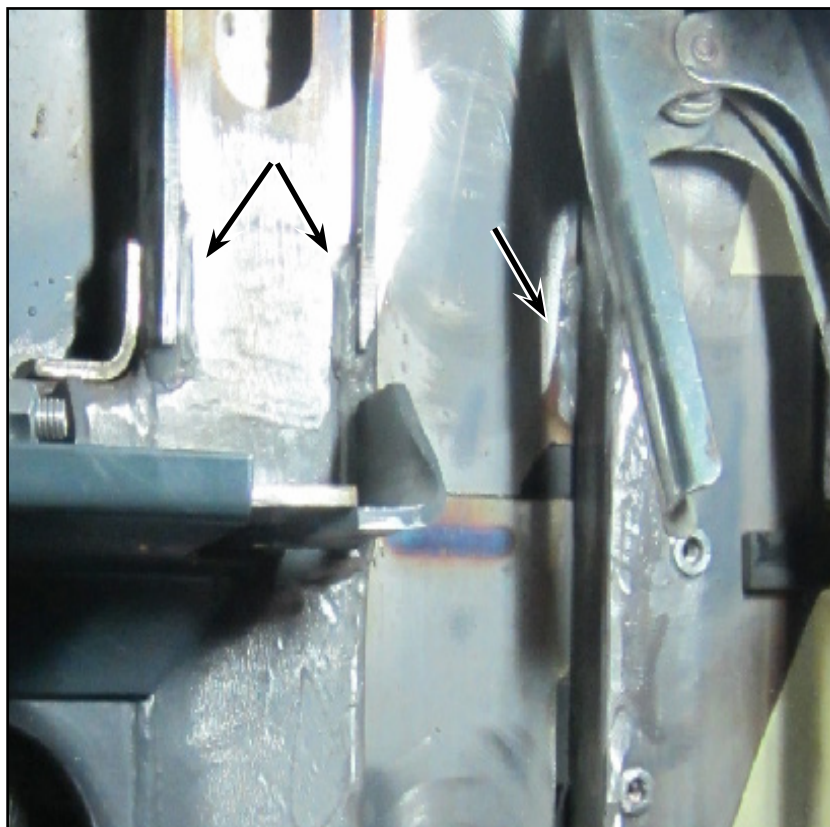

Figure 10 - Examples of Weld Beads that May Need to be Ground (Not Limited to These)
- 1.21. If there are existing protruding bumps greater than 1/16 in. from the existing weld beads, grind them flush with the weld bead. The weld on the existing structure should not be more than 1/2 inch, if it is, it should be ground down to insure that the maximum of 1/2 inch is respected. The minimum weld size to respect shall remain equivalent to the thickness of the plate being welded and respecting a maximum weld size of a 1/4 inch. See Figures 10 and 11
- 1.23. A 1/8 in. gap is required between N71119 and the existing weld on the structure, grind if necessary. Press fit is not acceptable. See Figures 10 and 13.